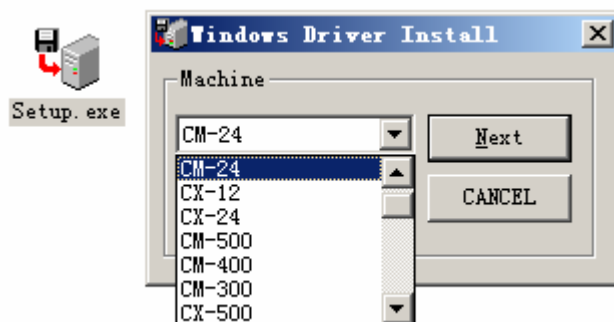

Figure 3
**Step 3:** Select **START—>SETTINGS—>PRINTERS AND FAXS** to set the printer. To avoid mistake we advice you remove all ROLAND driver which exist in your company and then install the new one. During the installation, you can choose CM-24 (Figure 3). Also COM port needs to choose when installing. Please select the